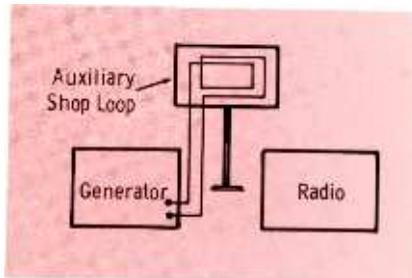

Fig. 2. Loose coupling thru auxiliary loop of generator to radio antenna.
Many technicians take a quick check on the accuracy of their shop generators as follows: (1) Use a radio in good working order, and set it a few feet from the generator. (2) Loosely couple the generator to the set through an auxiliary loop (Fig. 2). (3) Tune in a station in the neighborhood of 910 kc. Use a modulated signal and vary the generator dial in the vicinity of 455 kc ( $\frac{1}{2}$  the dial indication). At some point near there you should hear the tone of modulation. (4) Turn off the modulation and listen for a high-pitched beat which appears on both sides of "zero beat." At zero beat the whistle tends to disappear into a low frequency rumble.